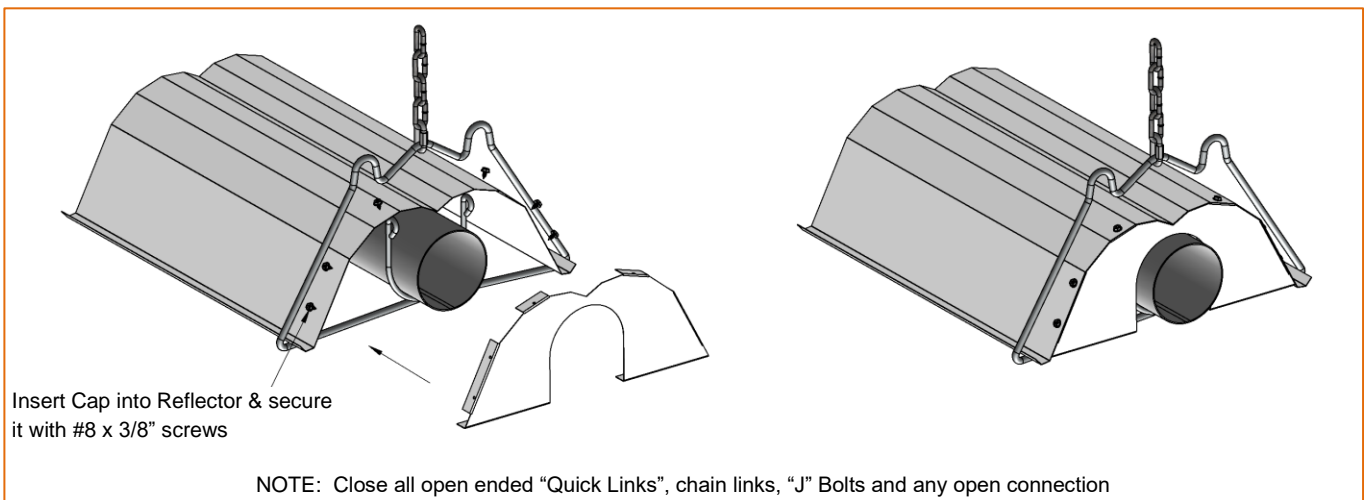

Figure 17: Reflector End Cap Installation
- Install End Cap as shown in Figure 17.
- If required by the heater layout, install 90° elbows or U-tube where indicated. Refer to Figure 17 for details.